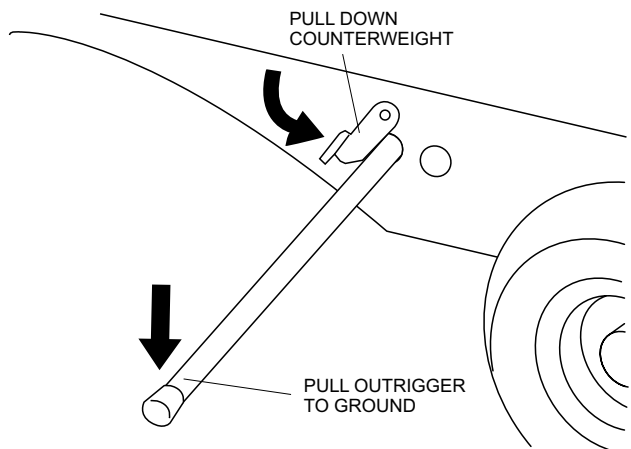

Figure 16. Locking Deployed Outrigger
2. Pull the outrigger down until it touches the ground. Pull down counterweight to lock the outrigger in place. See Figure 16.